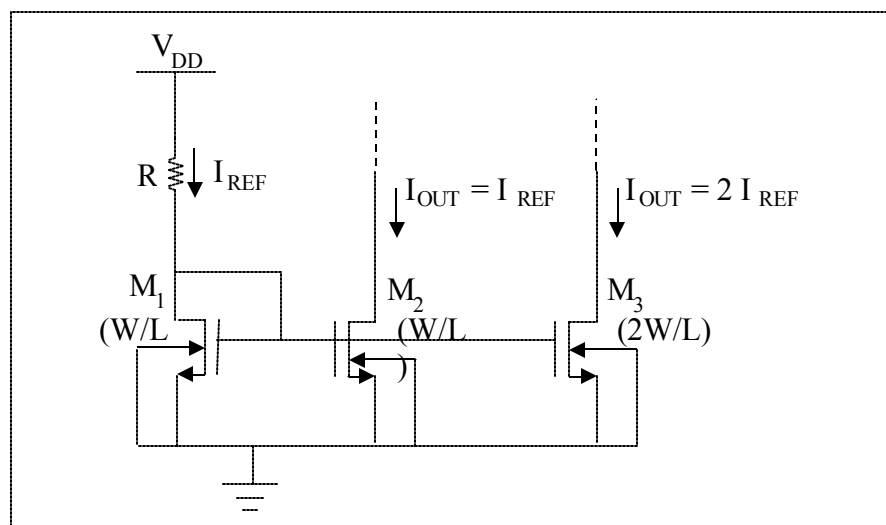

Figure 3. Two-output MOSFET current source
MOSFET current mirrors are also useful in providing a simple way of generating multiple currents for different stages of a circuit. The output current can be scaled by scaling the W/L ratio appropriately. An example of a two-output MOSFET current source is shown in Figure 3.
- (2) Design the simple current mirror and the modified Wilson current source for a 4 mA dc drain current by selecting an appropriate value of resistance R to replace the ideal I_{REF} source. Note that you will have to round your calculated value to a standard resistor value. *Note also that the required resistance values will be different for the two different sources.* Use $V_{DD} = 5.0$ V for the simple current mirror and $V_{DD} = 10.0$ V for the modified Wilson current source. Assume that $V_{Tn} \sim 0.7$ V, the NMOS intrinsic transconductance is $k'_n = 25 \mu\text{A}/\text{V}^2$, and W/L for all devices is 100:1.
- (3) For both the simple current mirror and the modified Wilson current source, calculate the value of the load resistance that will drive the output transistor of the current source out of saturation. (They will be different values.) These would be the *maximum* load resistances that could be used and still have the current sources operate properly.
- (4) Simulate the simple current mirror and the modified Wilson current source for a range of load resistances (up to the maximum values calculated previously) using PSPICE.
- (5) Using the basic current mirror design, simulate a multiple output current mirror with two output transistors as shown in Figure 3.
- (2) Build the circuit in Figure 3 by modifying the simple current mirror.